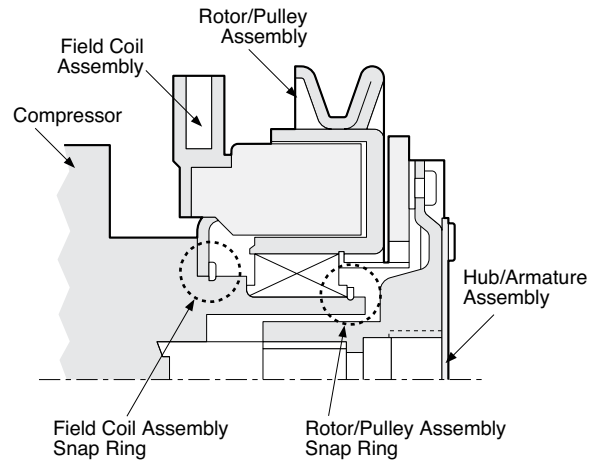

Figure 2
*For a 6C17 Compressor, Install the field coil assembly (2) with the retaining ring (3) provided with the new Warner clutch. Discard the old retaining ring.
With a snap ring pliers, spread the field coil snap ring (3) and insert it into the groove on the compressor nose. (See Figure 2) To assure assembly retention, ring bevel must face away from the compressor. (See Figures 3 and 4)
- A. Install the rotor/pulley assembly (4) onto the compressor (1). If the rotor/pulley does not slide on easily check the compressor nose for nicks or burrs and remove. If the rotor/pulley still does not slide on easily, rock the rotor/pulley back and forth by hand until it slides completely onto the compressor (1).
- B. Make sure there is no interference between the field coil (2) or lead wires and the rotating rotor/pulley (4).
- C. Install the rotor/pulley snap ring (5). With a snap ring pliers, spread the snap ring and insert it into the groove on the compressor nose. (See Figure 2) To assure assembly retention, the snap ring bevel must face away from the compressor. (See Figures 3 and 4)